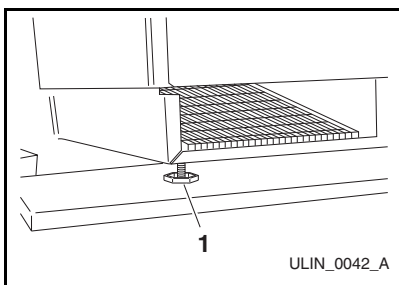

Figure 18
2. If the unit is not level, adjust the feet on the corners of the unit as necessary (**Figure 18**).